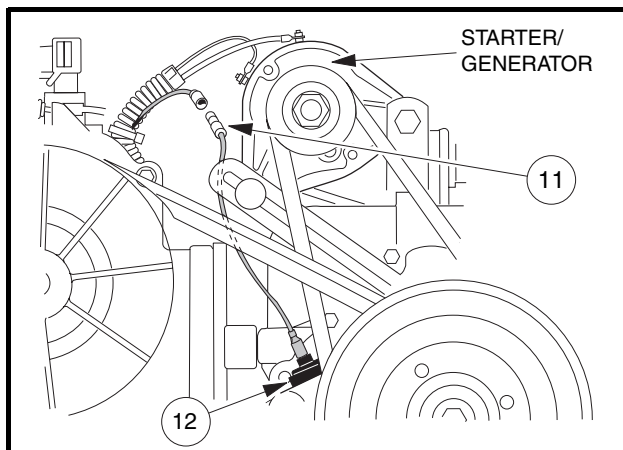

Figure 13-2 Oil Level Sensor Wire
1. Remove yellow jumper wire (11) from cord connector (12) (**Figure 13-2, Page 13-5**).
1. Connect the yellow jumper wire (11) to the cord connector (12) (Figure 13-2, Page 13-5). See following CAUTION.